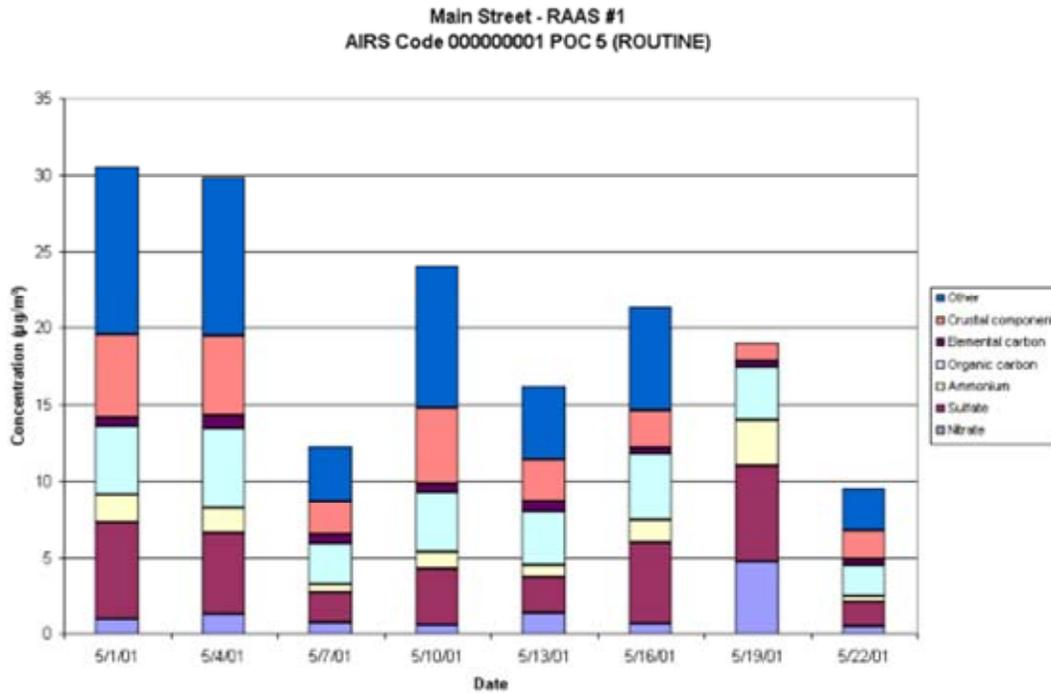

Figure 5-9. Stacked column plot generated by the species distributions analysis.
- Stacked Column Plot (Figure 5-9). Data are plotted in columns, with each new series stacked on top of the previous. This shows the relationship of individual items to the whole.